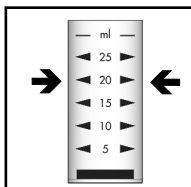

Figure 1
1. Fill the sample cup to the 20 mL mark with the sample to be tested (fig 1).